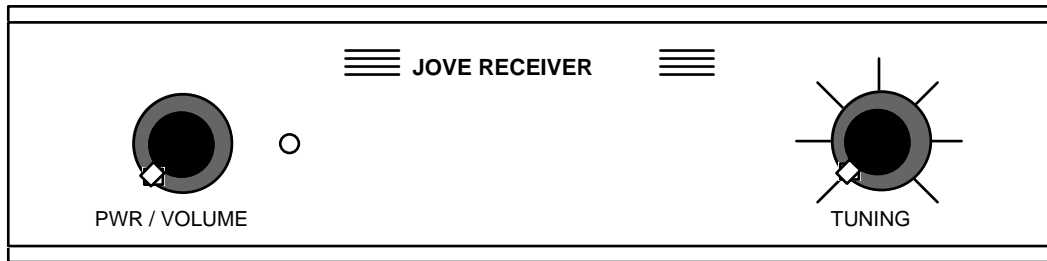

Figure 15. JOVE receiver front panel with knobs
15. \square Install the two knobs. Align them on the shaft so that when the control is turned full counterclockwise, the index mark is near the 7 o'clock position (Figure 15). Once the knob is tightened down, the full counterclockwise rotation and the full clockwise rotation of the knob index mark should be equal-spaced from the 6 o'clock position.